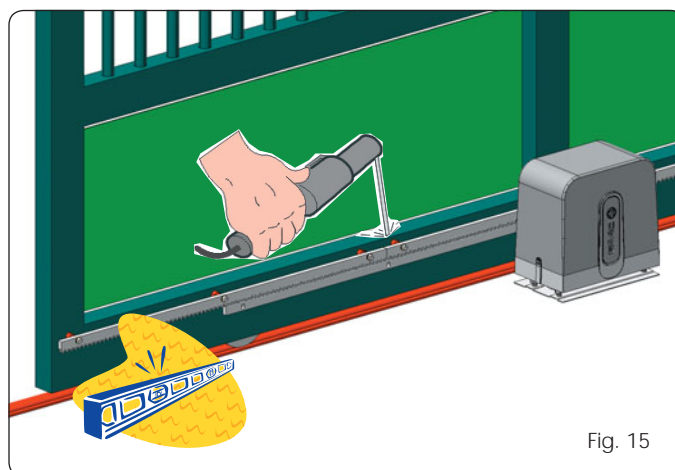

Fig. 15
5. Bring another rack element near to the previous one, using a piece of rack (as shown in Fig. 15), to synchronise the teeth of the two elements.
5. Bring another rack element near to the previous one, using a piece of rack (as shown in figure 15) to synchronise the teeth of the two elements.